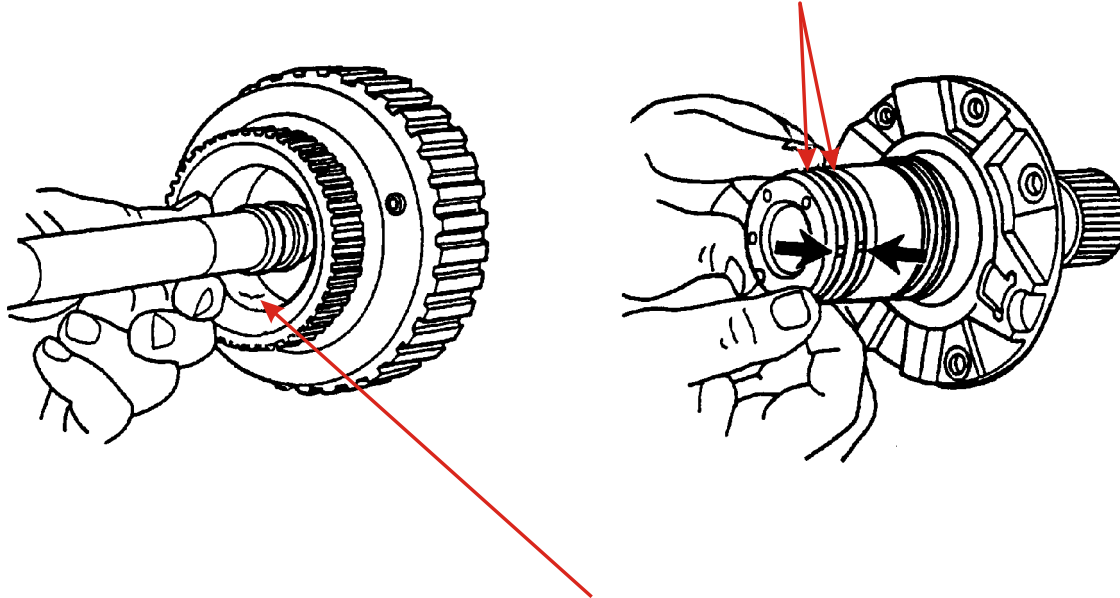

Figure 4
NUMBER (4) - There are now New Design Forward Clutch Sealing Rings, available under OEM part number F4AZ-7D019-A, that are plated. ALWAYS replace the Forward Clutch Sealing Rings with the new design, as shown in Figure 4.